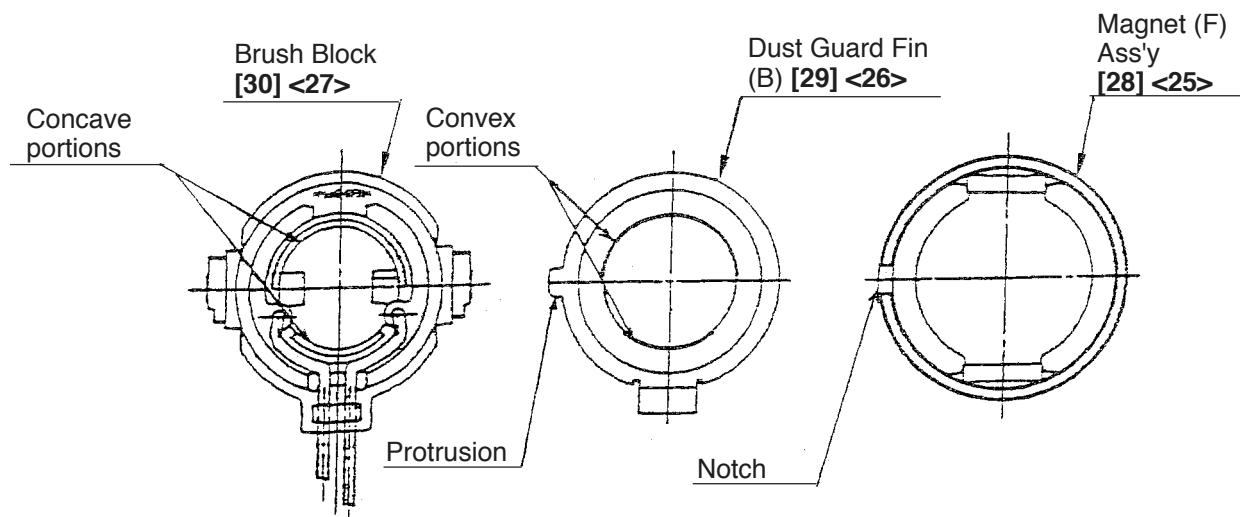
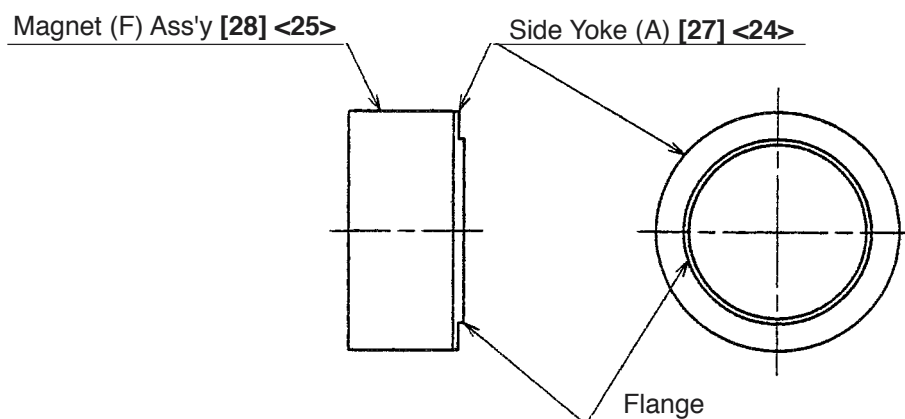

Fig. 14
Fig. 15
- Adjust the protrusions of Dust Guard Fin (B) [29] <26> to the concave portions of Magnet (F) Ass'y [28] <25> and also adjust the outside diameter of Dust Guard Fin (B) [29] <26> to the outside diameter of Magnet (F) Ass'y [28] <25> when mounting Dust Guard Fin (B) [29] <26> to Magnet (F) Ass'y [28] <25> (See Fig. 14).
- Mount Side Yoke (A) [27] <24> to Magnet (F) Ass'y [28] <25> facing the flange of Side Yoke (A) [27] <24> to the outside (see Fig. 15).
- Insert two Dampers (A) [24] <21> so that they fit into Inner Cover (B) [25] <22>. Fit the locking rib of Ring Gear (C) [21] <18> to the concave portion of Damper (A) [24] <21>. Press-fit the Armature and Pinion Set [26] <23> into Inner Cover (B) [25] <22>.
- Adjust the convex portion of Dust Guard Fin (B) [29] <26> to the concave portion of the Brush Block [30] <27> (see Fig. 14).
- Adjust the concave portions (for locking) of Magnet (F) Ass'y [28] <25> to the protrusions of housing (A) (see Figs. 14 and 16).